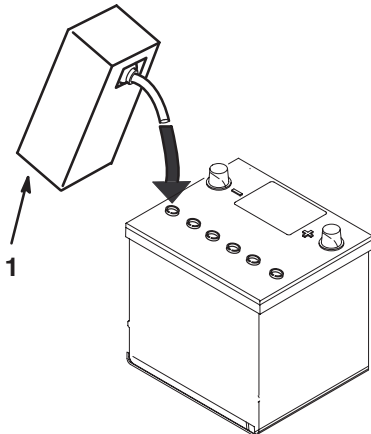

Figure 18
4. Allow approximately 20 to 30 minutes for the electrolyte to soak into the plates. Refill as necessary to bring the electrolyte to within about 1/4 inch (6 mm) of the bottom of the fill well (Fig. 18).